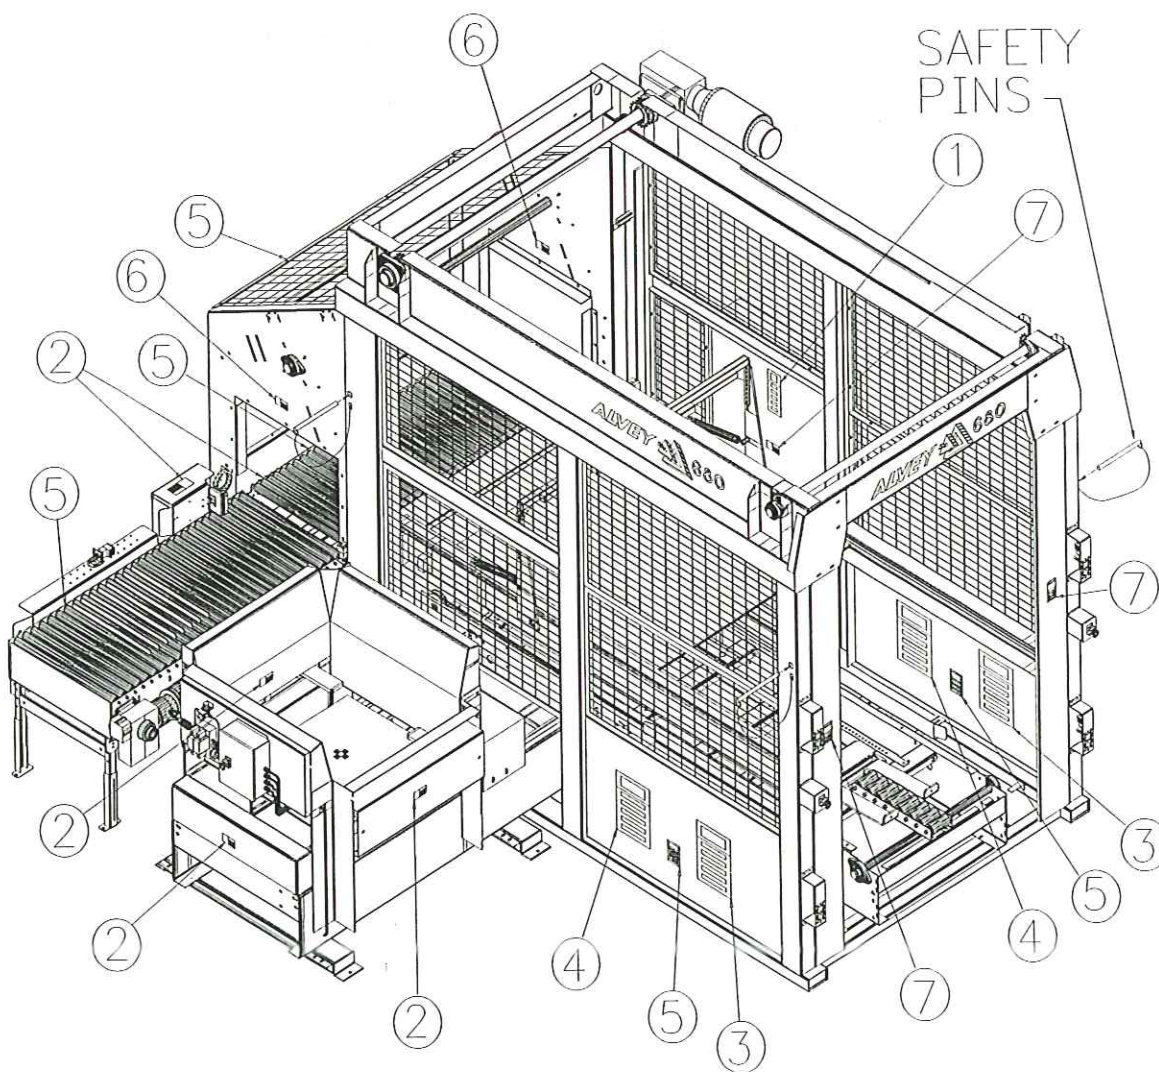

Figure 1-3: Machine Safety Signs
7. When it is necessary to work in the general area of the hoist, lower the hoist to its home position (the fully down position) or block the hoist with the four safety pins to prevent it from lowering. (See Figure 1-3 for safety pin locations.)
For your safety read and follow all the caution and warning labels attached to this equipment. Safety signs are displayed on the palletizer/unitizer to warn all personnel of hazards. Refer to Figure 1-3, for locations of the safety signs. If any safety signs are missing or damaged, they will be provided to you for no charge.